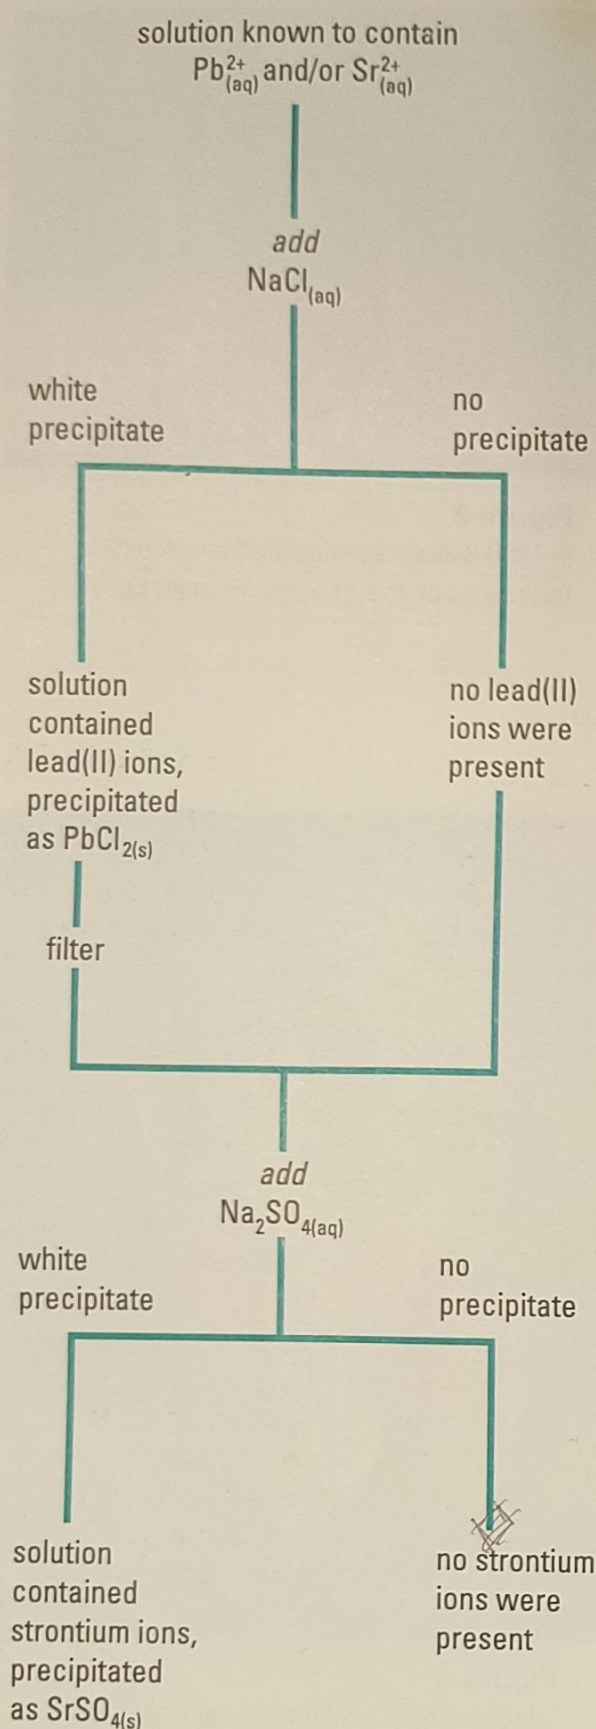

Figure 5
Let's test for the possible presence of lead(II) ions in a solution, before going on to test for the presence of strontium ions (Figure 5, page 344). Chloride ions form a low-solubility compound with lead(II) ions, so if lead(II) ions are present